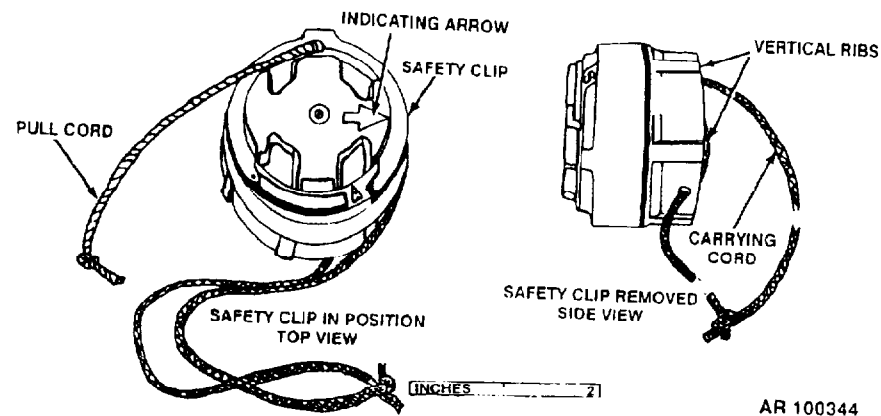

Figure 1-1. Mine, antipersonnel, nonmetallic (NM): M14, with integral fuze.
(1) This blast-type, high-explosive mine (fig. 1-1) has a cylindrical, all-plastic body. Six external body ribs provide strength and identify the mine in the dark. Pressure plate, slotted for insertion of steel U-shaped safety clip, has a yellow indicating arrow and is indented to accommodate mine and fuze wrench M22. Letters A and S on top of the fuze body signify Armed and Safe, respectively.
(2) A force of 20 to 35 pounds is needed to depress pressure plate which, in turn, depresses the belleville spring. The belleville spring snaps into reverse, driving firing pin into detonator M46; the detonator explodes main charge of 1 ounce of tetryl.